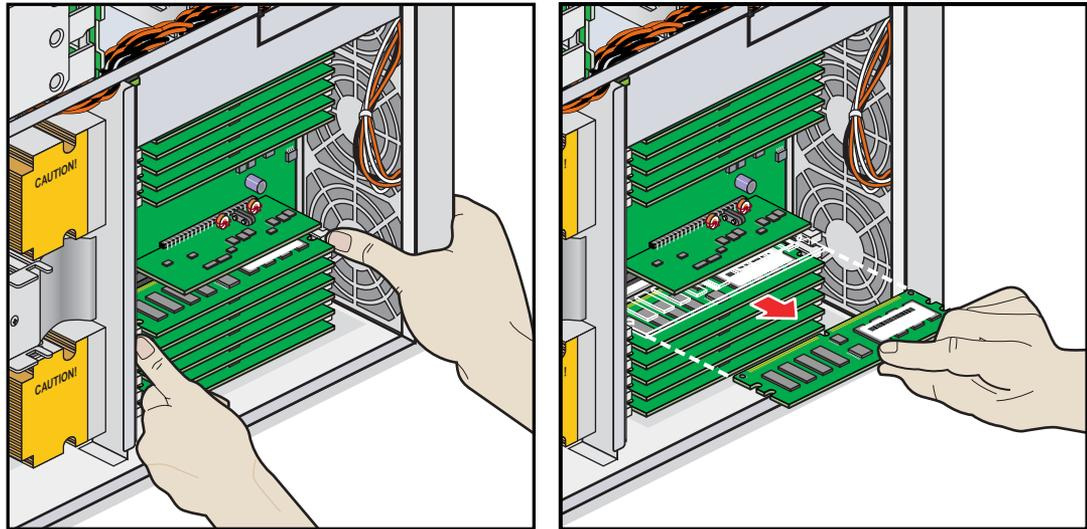

Figure 3-9 Removing a DIMM
2. Remove the DIMM, as follows (see Figure 3-9):